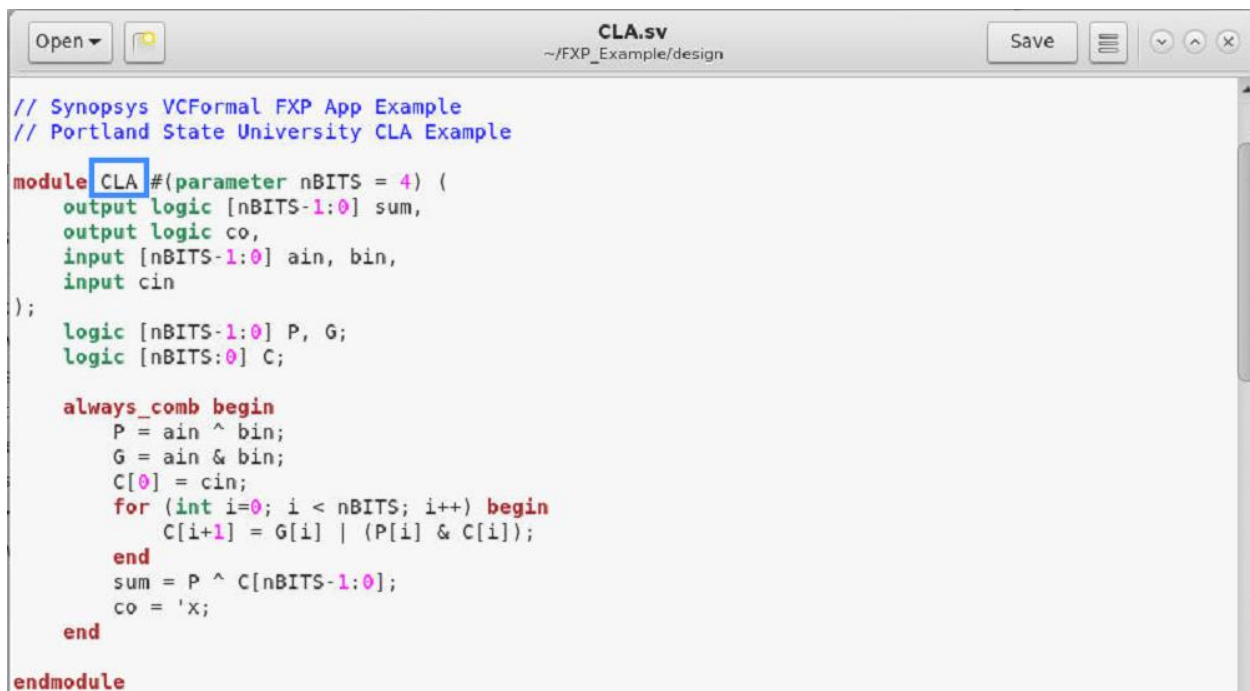

Figure 3. Example of the design we are using in this tutorial.
In order for VC Formal to map your design, you need to acknowledge and keep note of your exact module name, as highlighted in Figure 3 above. This will come in handy when you create your TCL file. To make things simple, we suggest naming your design file after its corresponding module name (more on this in the TCL File section below).
- (1) Instruction that sets the appmode to FXP in VC Formal.
- (2) Name of the main module as established in the Design file.
- (3) The property type identifier
- (4) Design file location so VC Formal knows where to find the file.
- (5) Generates default points for FXP checking.
- (6) This will help identify where a failed FPX check came from.
As mentioned before, VC Formal is case AND character sensitive, and in order for it to map your designs, you will need to use the same module name in the TCL script (2) and the module name in the design file. For example, we can see that our module name in the TCL script is the same as the module name in the design file in *Figure 3*.